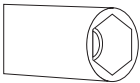

Figure 3
- Please use driver with special head for removed and install nozzle as. (Figure 3)